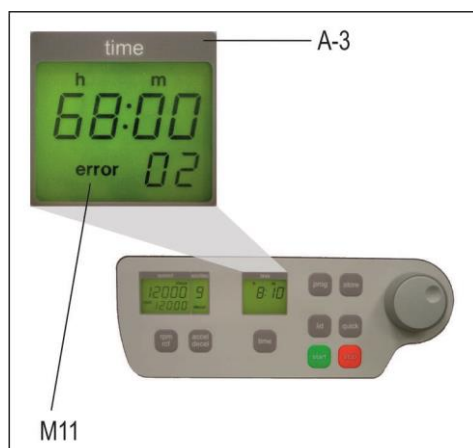

Figure26
With the "stop" key (10), the run time can be interrupted, at any time, (see Figure 26). After pressing the key, the centrifuge decelerates with the respective pre-selected intensity, down to a standstill.
When inside the display "time" (A-3), the word "error" along with the number "02" appear, (see Figure26) the potential reason for the error can be: The imbalance switch is defective.